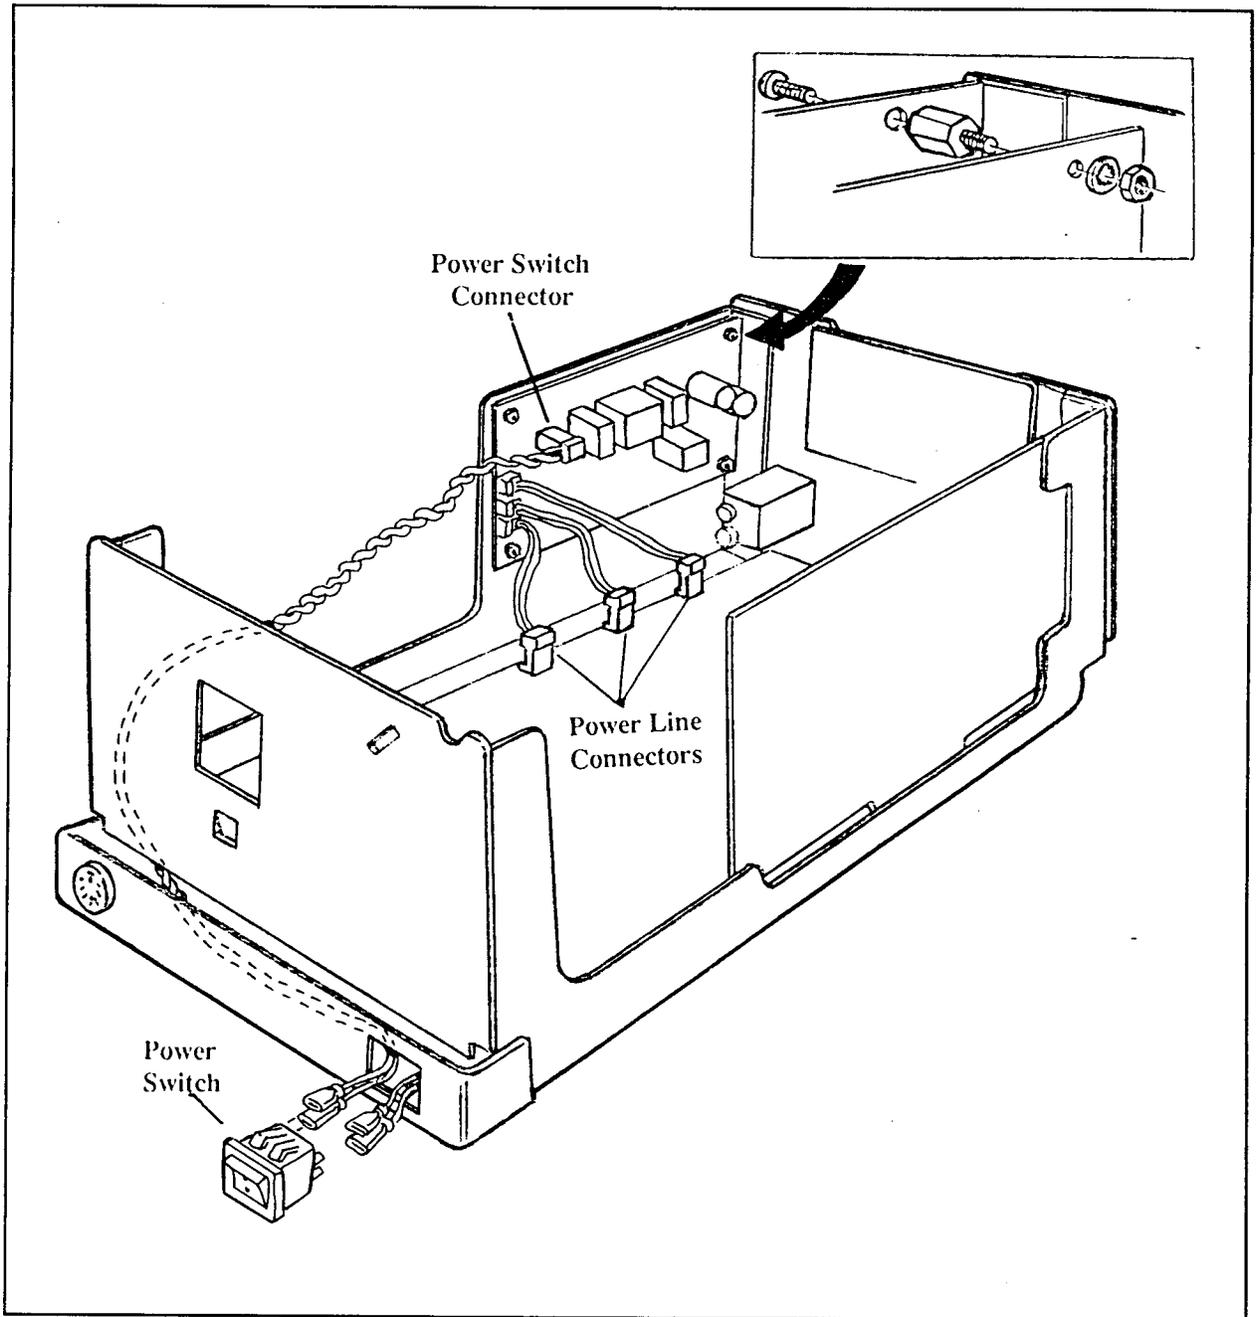

Figure 4-9 Power Supply Board Assembly Replacement
1. REMOVAL: (Figure 4-9)
- d. Remove the Power Supply Board Assembly as described in paragraph I (Figure 4-9)